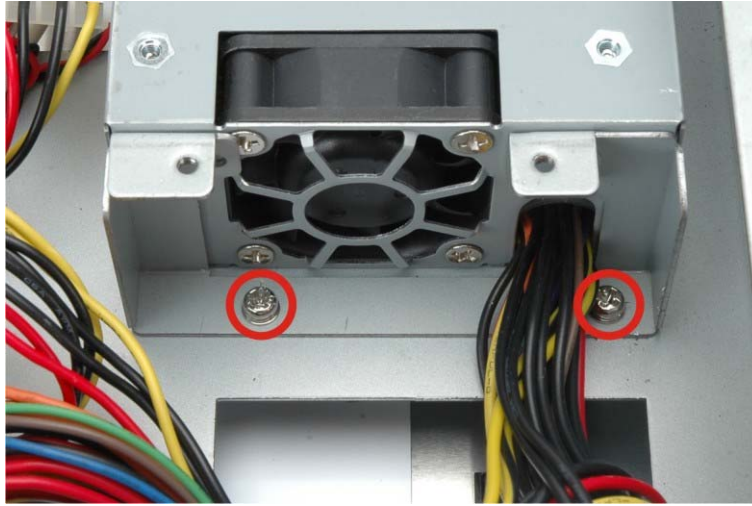

Figure 4-8: PSU Bottom Panel Retention Screws
Step 4: Unfasten the screws on the inside panel (Figure 4-8).